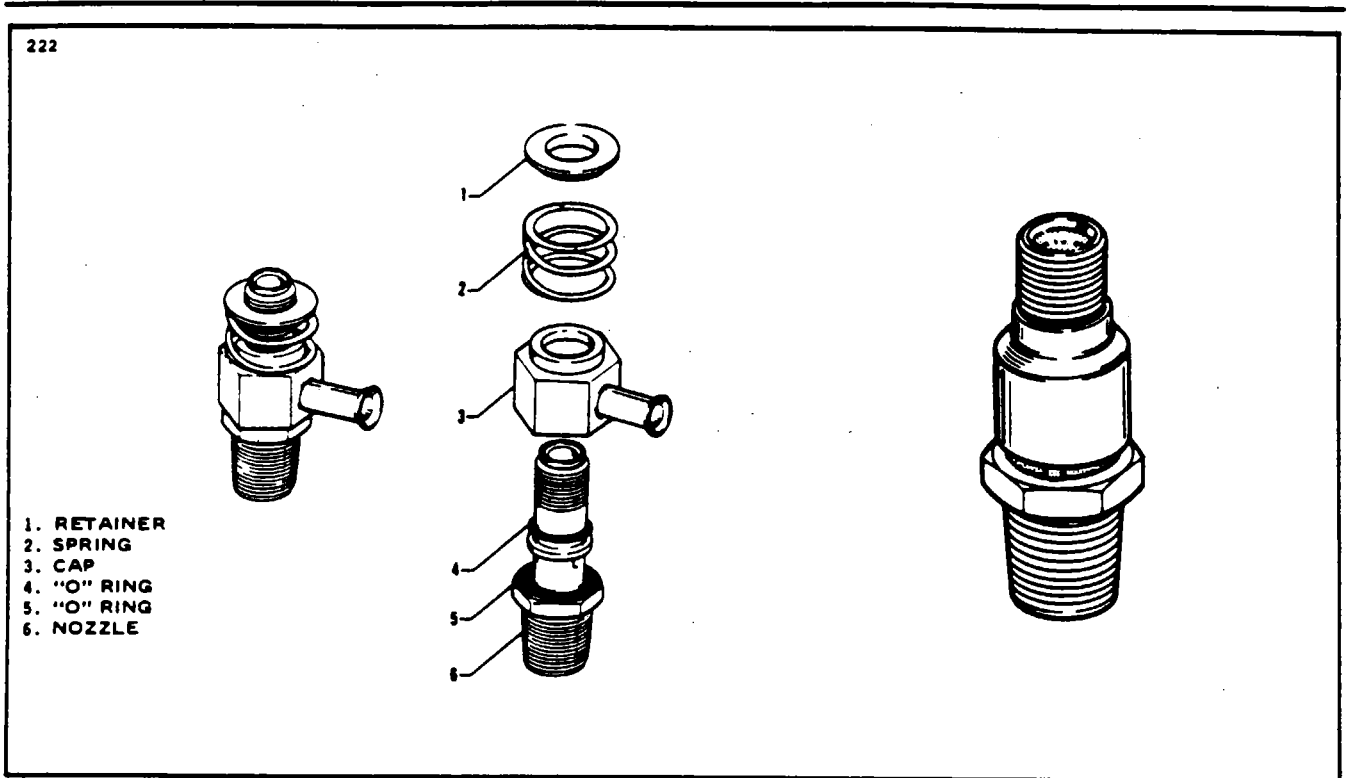

Figure 73-3. Fuel - Air Bleed Nozzle
3. Ascertain that the O-rings are properly installed on the nozzle stem and install the nozzle shroud. (Refer to Figure 73-3.)